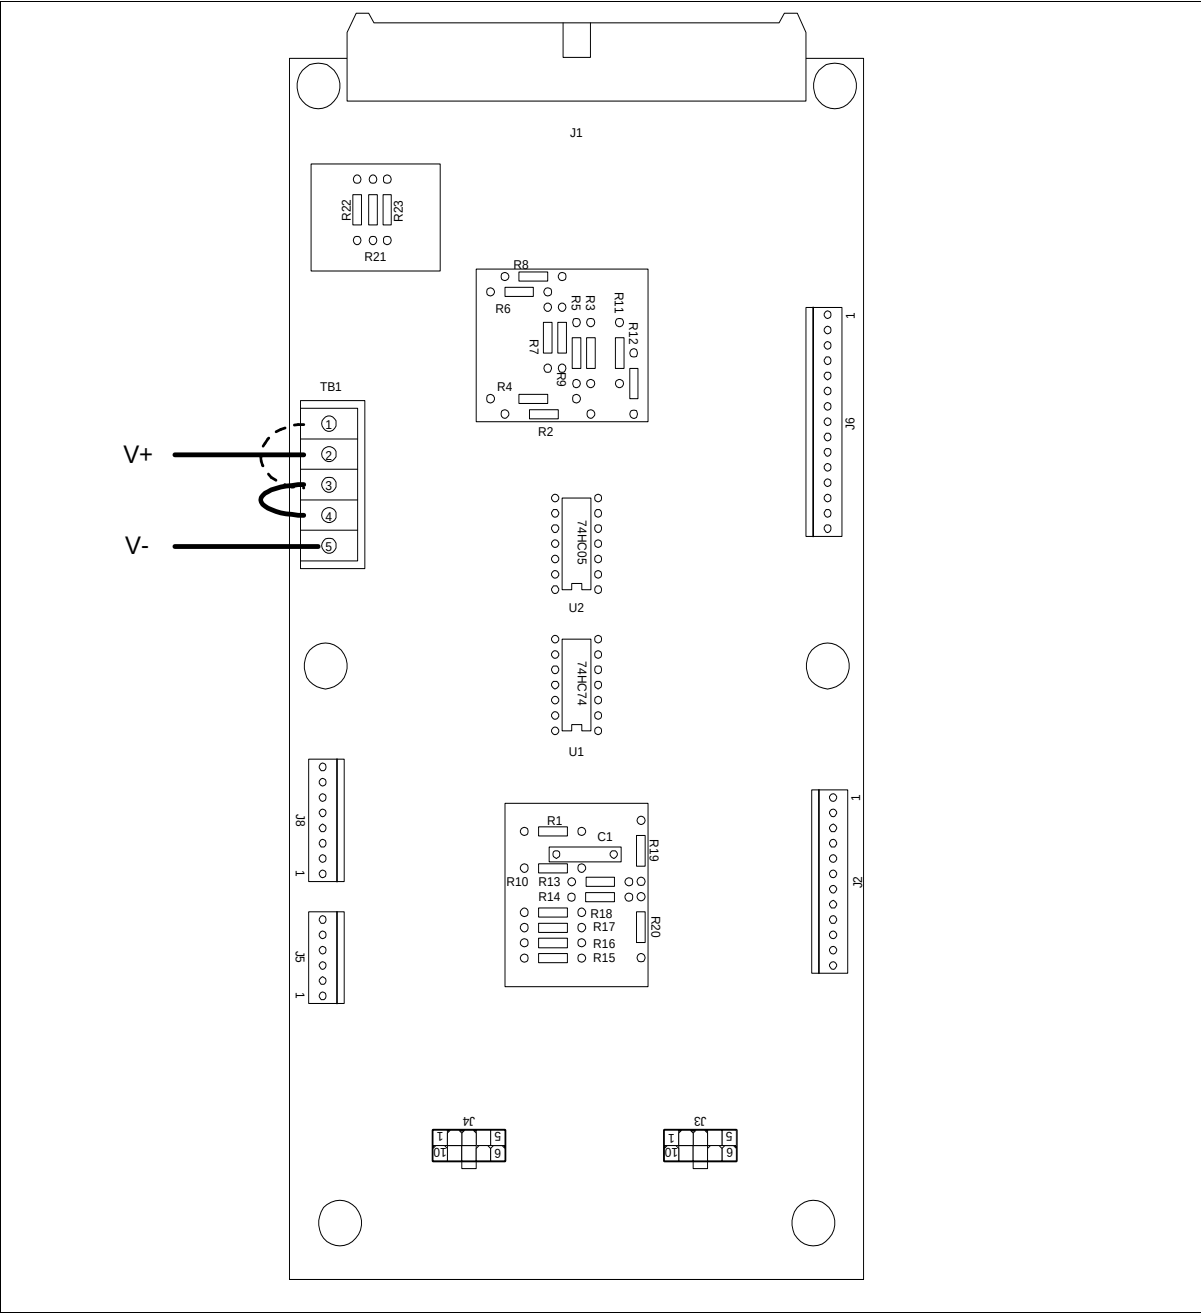

Figure 2
- 2.10. Locate terminal block TB1 on Fixture Interface Board. See Figure 2 below.